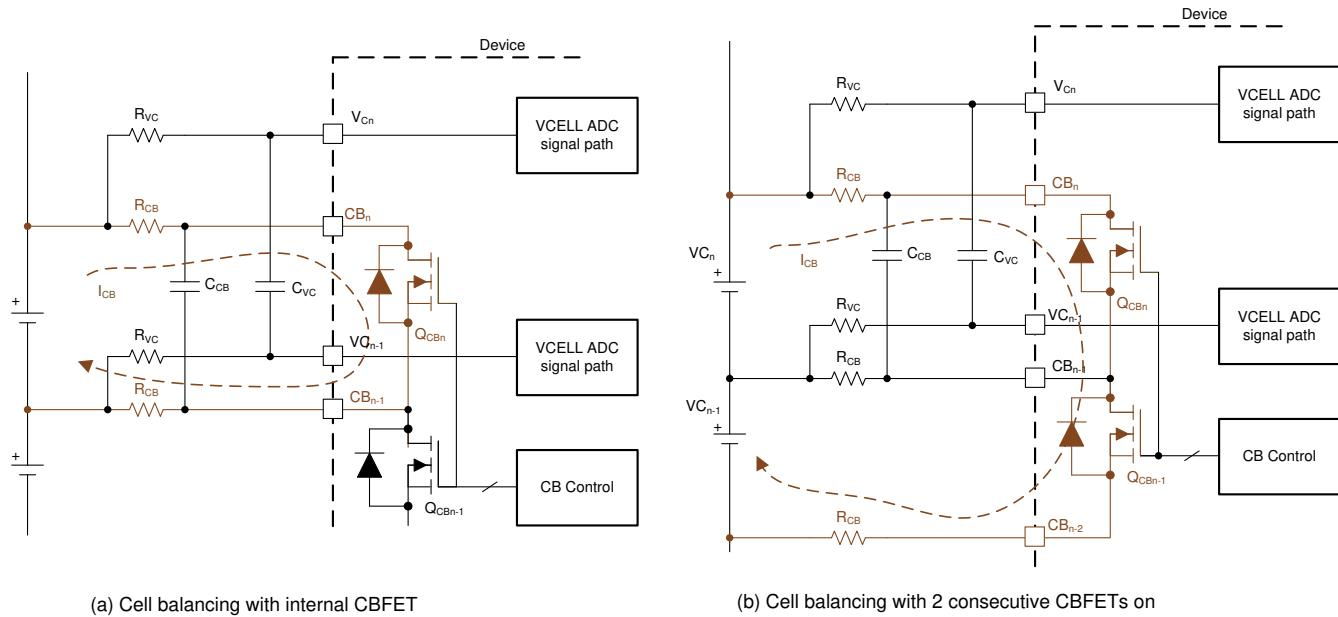

Figure 9-14. Internal Cell Balancing and the Flow of Balancing Current
- Balancing with no consecutive CBFET on (Figure 9-14 \(a\)): $I_{CB} = V_{Cell} / ((2 \times R_{CB}) + R_{dsOn_{QCB}})$
- Balancing with two consecutive CBFETs on (Figure 9-14 \(b\)): $I_{CB} = (\text{Sum of two } V_{CELL}) / ((2 \times R_{CB}) + R_{dsOn_{QCBn}} + R_{dsOn_{(QCBn-1)}})$
- Manual balancing control ($[AUTO_BAL] = 0$): With this method, the device will turn on the CBFETs that have non-zero balancing timer settings once $[BAL_GO] = 1$ is received. There is no odd and even channel switching during the cell balancing and the $BAL_CTRL1[DUTY2:0]$ setting does not apply under this control. Host MCU can enable two consecutive CBFETs with this method and a maximum of eight CBFETs can be enabled. When two consecutive CBFETs are enabled with both channels connected to battery cells, the balancing current is significantly different compared to no adjacent CBFET being on (Figure 9-14). The $DEV_CONF[NO_ADJ_CB]$ bit is provided to avoid inadvertent enabling of an adjacent CBFET for a system that is not intended to have an adjacent channel on for balancing. In this control method, the device is relying on the MCU to enable the proper channels. If the MCU sends $[BAL_GO] = 1$ but the CBFETs are enabled with an invalid condition, the device will not start balancing and will set $BAL_STAT[INVALID_CBCONF] = 1$. Invalid configurations are either: